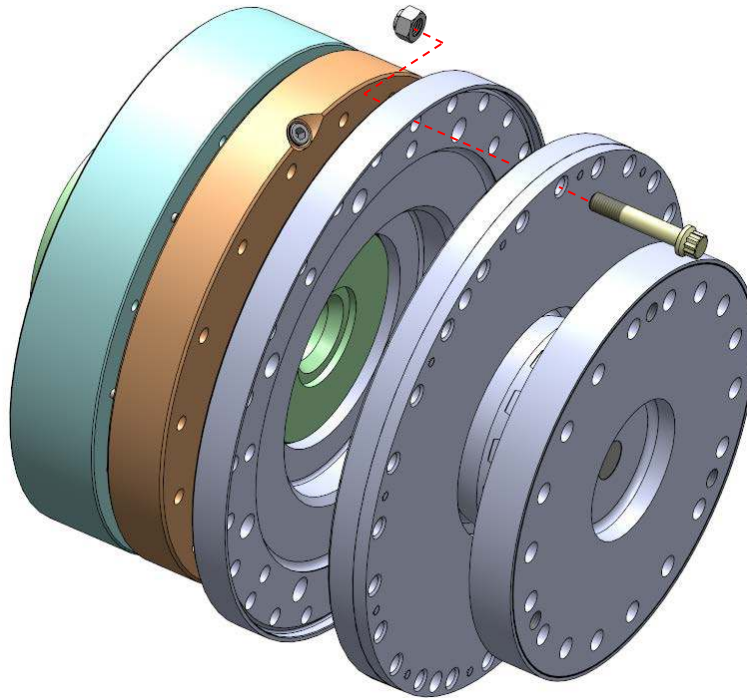

Figure 8 – Flex Assembly Installation on Hub Flange
4.1.1 Install one flex assembly onto the hub as shown in Figure 8 aligning the holes using Qty (4) bolts and nuts spaced 90 degrees apart. Tighten the bolts/nuts a few turns at a time in a criss-cross pattern to seat the pilot evenly. Install the remaining bolts and nuts and torque evenly in a criss-cross pattern to the torque shown on drawing HC-9151.